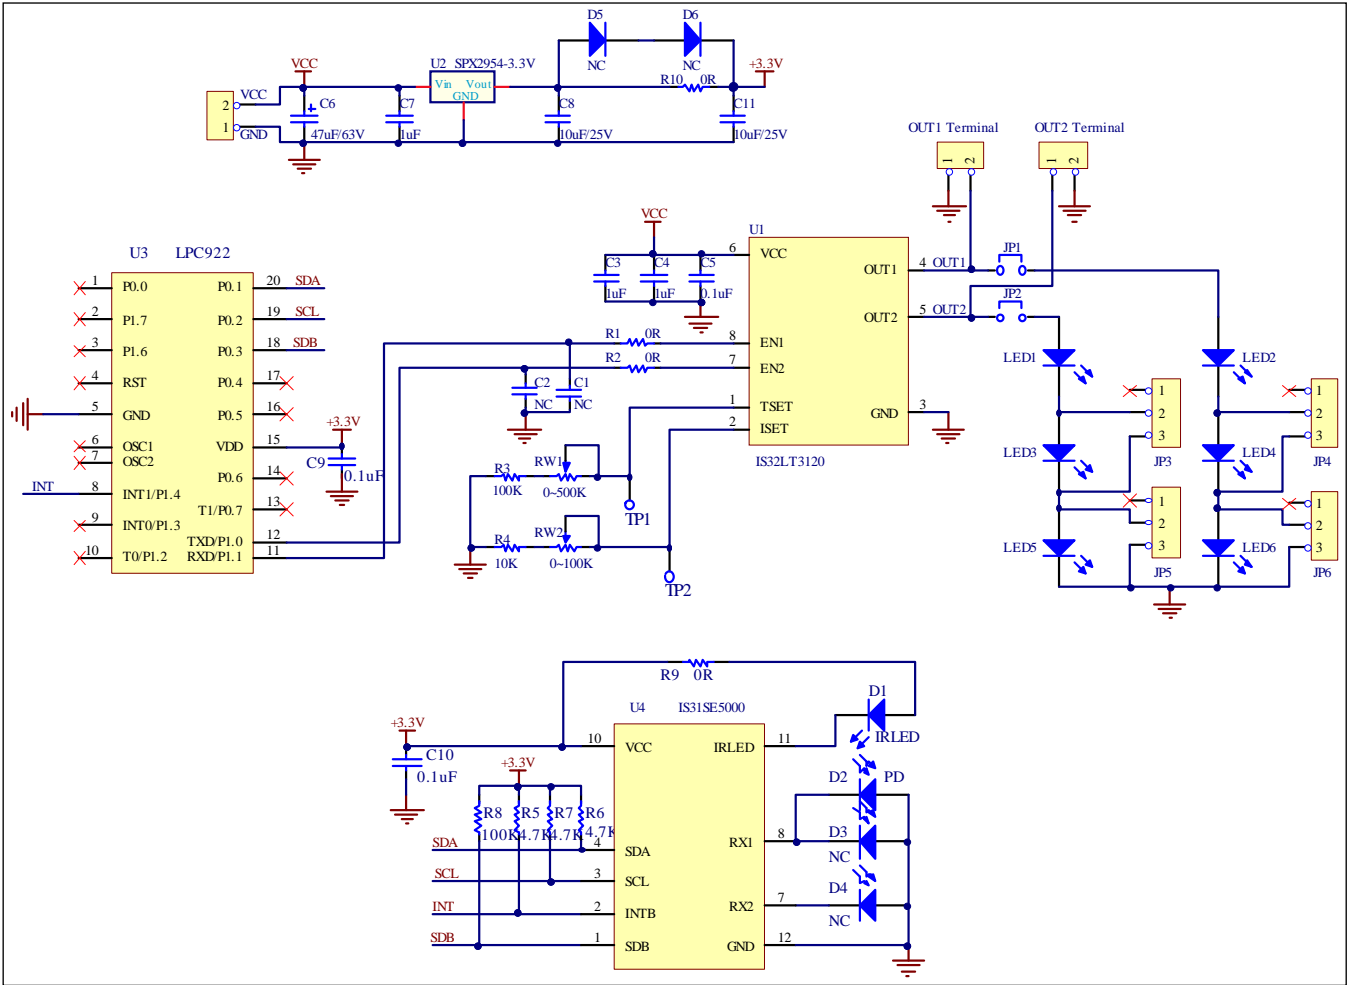

Figure 2: IS32LT3120+IS31SE5000 Application Schematic
- 2) The fade time of both channels is adjusted by the variable resistor (RW1). Turn RW1 counter clockwise to decrease fade time, and clockwise to increase fade time. Once the desired fade time is set, measure the resistor value across TP1 and GND. Use this measured resistor value to replace the variable resistor RW1 and R3 (see schematic Figure 2).
- 3) The output current of both channels (OUT1 and OUT2) is adjusted by the variable resistor (RW2). Turn RW2 counter clockwise to decrease the output current of both channels, and clockwise to increase the output current of both channels. The test point TP2 can be used to detect the resistor value at the ISET pin. The final resistance can be measured with an ohm meter across TP2 and GND pins. Use this measured resistor value to replace the variable resistor RW2 and R4 (see schematic Figure 2).
Bill of materials, refer to Figure 2 above.